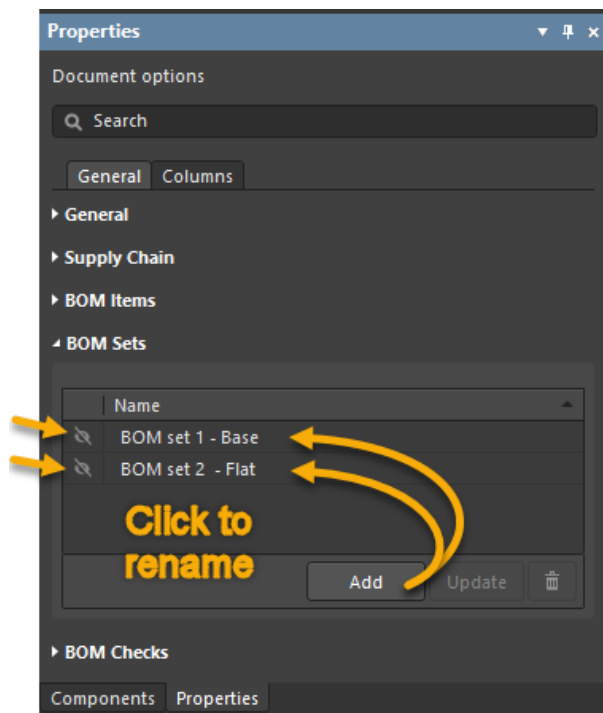
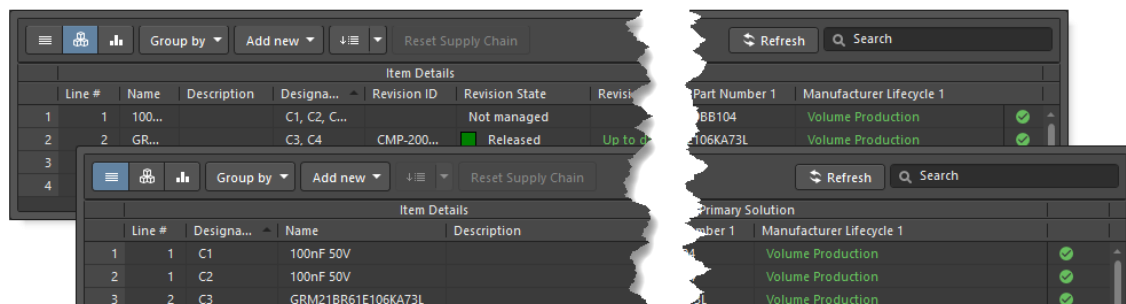

Figure 8. Properties Panel - ActiveBOM with two BOM Sets
Figure 9. Two BOM Sets with different Layout Configurations
22. Next, you will add BOM sets. BOM sets allow you to save specific layout configurations for your BOM, as shown in Figure 8 and Figure 9.